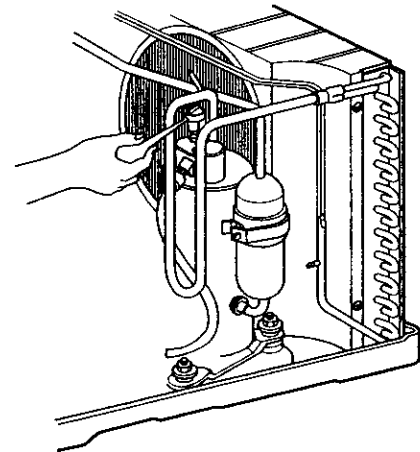

Figure 48
3. Remove the terminal cover. (See Figure 48)